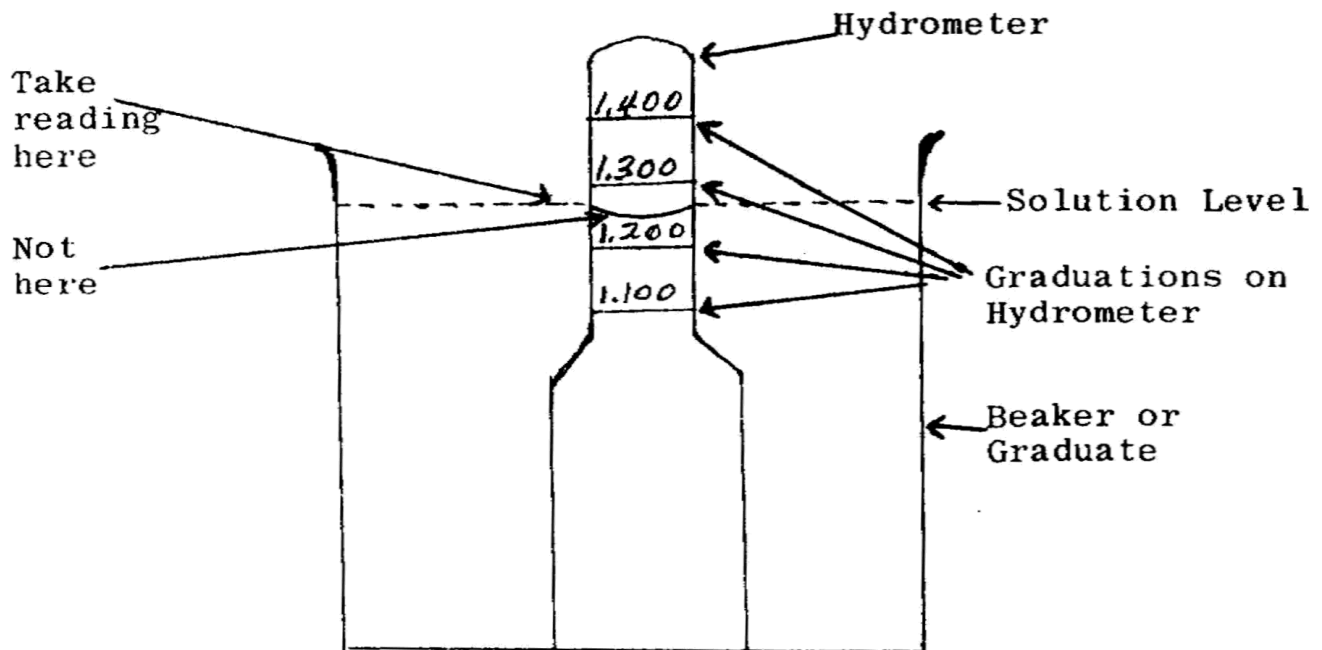

Figure 23
4. The specific gravity is read at the point at which the solution clings to the hydrometer (figure 23).